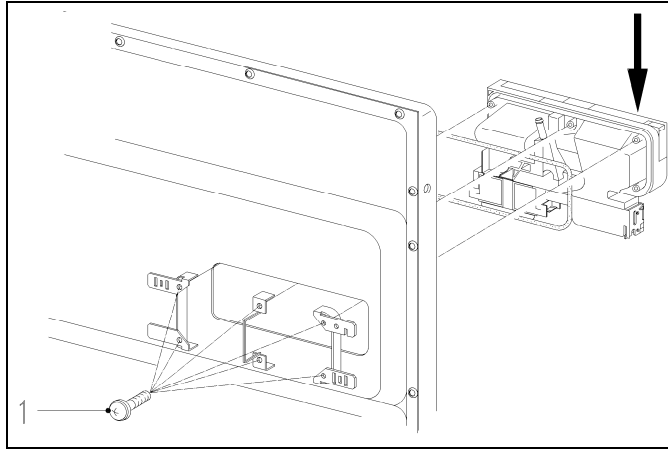

Figure 5-11: Combination Dispenser Removal
3. Remove the raised-head screws (Figure 5-11, Item 1).
4. Release the retaining clips downwards in the direction of the arrow (see Figure 5-11) and remove the dispenser assembly.